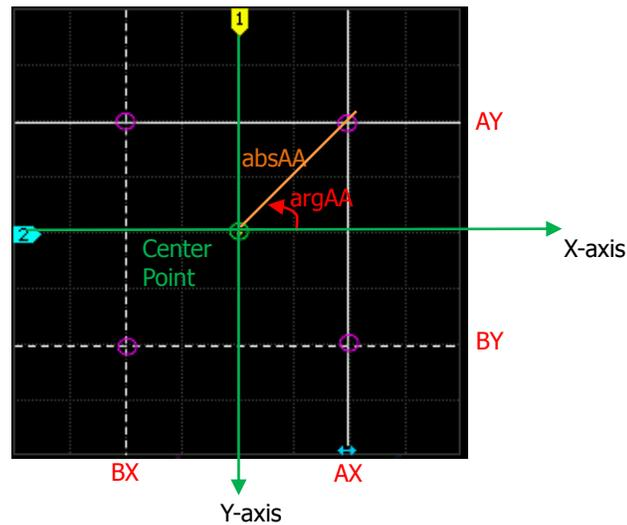

Figure 6-8 XY Cursor Measurement Definition
- absAA: the chord length of the crossing point of cursors AX and AY relative to the center point. The center point is defined as the crossing point of the horizontal position (X-axis) and the vertical position (Y-axis) of two channel labels on the screen as shown in Figure 6-8.